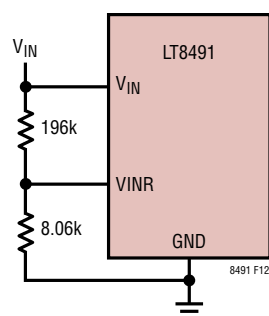

Figure 12. VINR Resistor Divider Circuit
measured to determine the absolute panel voltage and check for under voltage conditions. As such, VINR must be connected to the resistor divider network shown in Figure 12. These resistors should have a 1% tolerance or better.
If the charger is only going to be powered by a DC voltage source, then the VINR pin can be grounded. If the charger will only be powered by a solar panel, then connect VINR as shown in Figure 12. If both supply methods may be used, then see the Optional: DC Supply Detection Circuit section for a method to pull down the VINR pin when a DC supply is detected.
**VINR Connection:** The VINR pin must be connected as shown in Figure 12 when being powered by a solar panel.